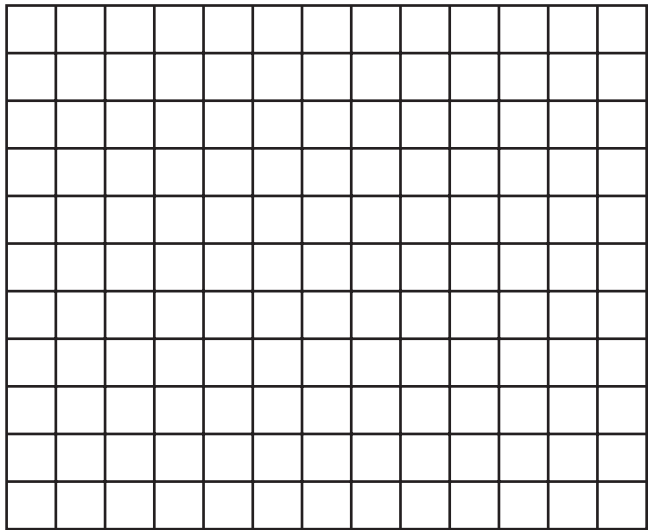

Figure 4.14 Registration test chart.
- Check that the registration of the camera is accurate by filming a registration test chart (see Figure 4.14).